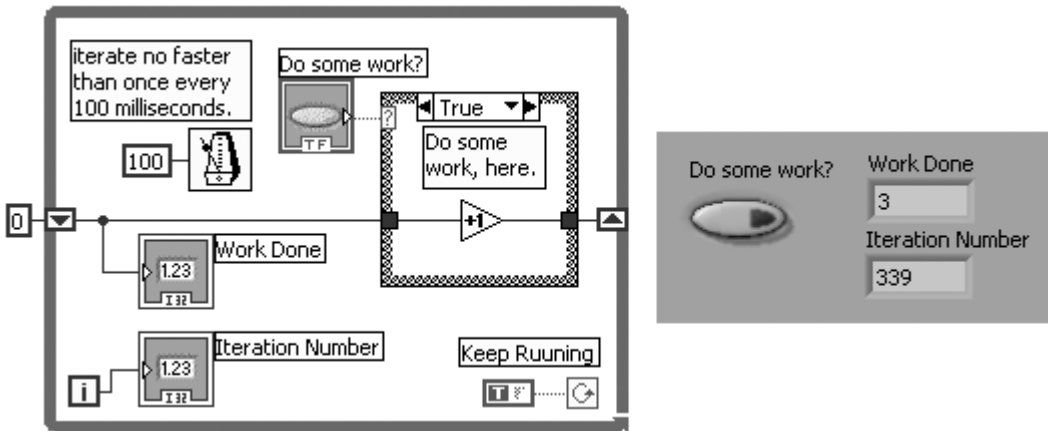
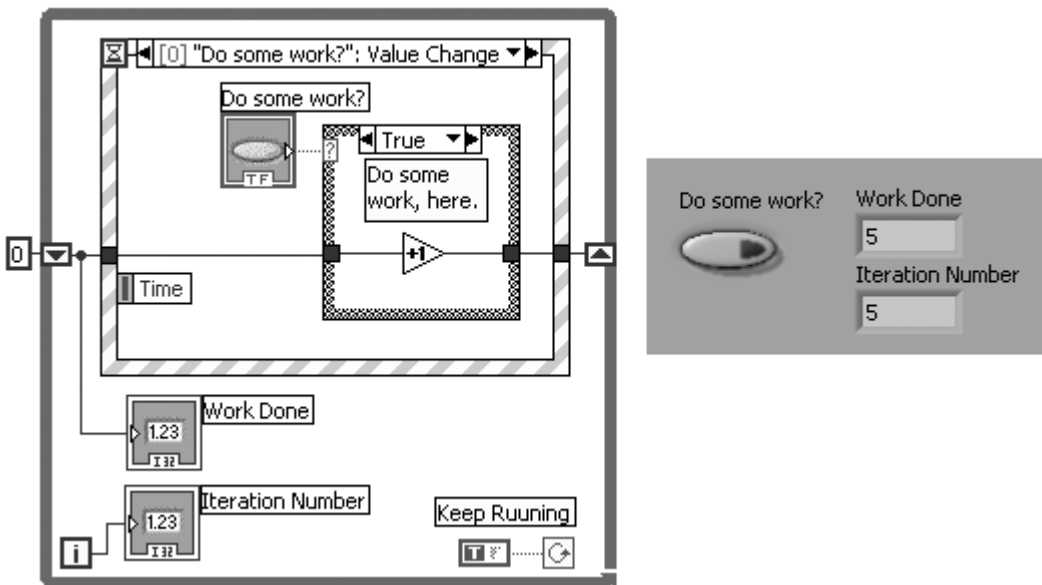

Figure 13.47
Figure 13.48
Without using an Event Structure, we can detect events such as pressing a Boolean control by periodically testing the value of the control. This technique is called *polling*. Figure 13.47 shows an example of how to poll the value of Boolean control in order to do work once the user presses it. Note that the Boolean control has been configured with the *Latch When Released* mechanical action so that it “bounces back” to FALSE immediately after the True value is read by LabVIEW.
Figure 13.48 shows an Event Structure that waits on the **Value Change** event of our *Do some work?* button. (The **Value Change** event is generated when the user changes the value of a control.) As we can see in Figure 13.48, the user has pushed the *Do some work?* button five times, and the While Loop has only iterated five times—one time for every push of the button! *Additionally, there is no detectable delay between when*
Placing a single Event Structure inside a While Loop is the most common (and probably best) way to use the Event Structure. We can see from direct comparison between the polling example in Figure 13.47 and the Event Structure example in Figure 13.48 that our code does not look dramatically different. All we have done is (1) wrapped our **Do some work?** terminal and Case Structure in an Event Structure and (2) removed the **Wait Until Next ms Multiple** function because the Event Structure will wait indefinitely (Timeout = -1) for a **Value Change** event to occur.